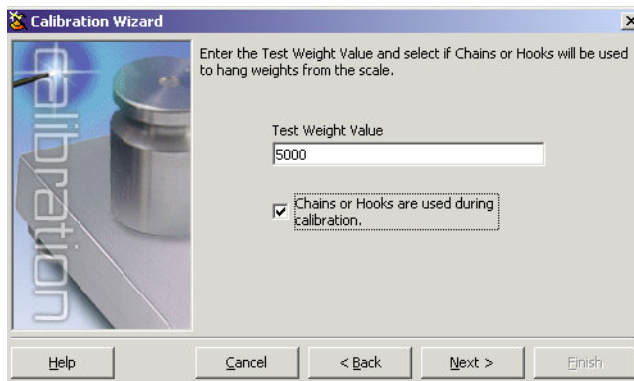

Figure 4-5. *iRev 4* Test Weight Value Display
3. Enter the test weight used to calibrate the scale (see Figure 4-5). If chains or hooks are used to hold the weights, check the box below the test weight value entry. This adds a rezero step to the calibration sequence.